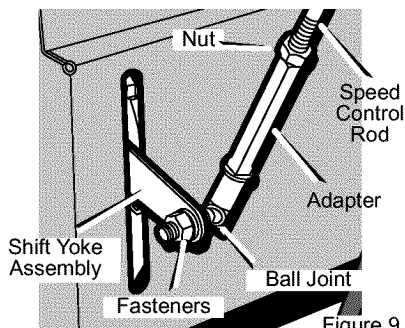

Figure 9
2. Attach the **ball joint**, located on the bottom end of the **speed control rod**, to the **shift yoke assembly**. See Figure 9. The **fasteners** are attached to the **ball joint** at the factory.